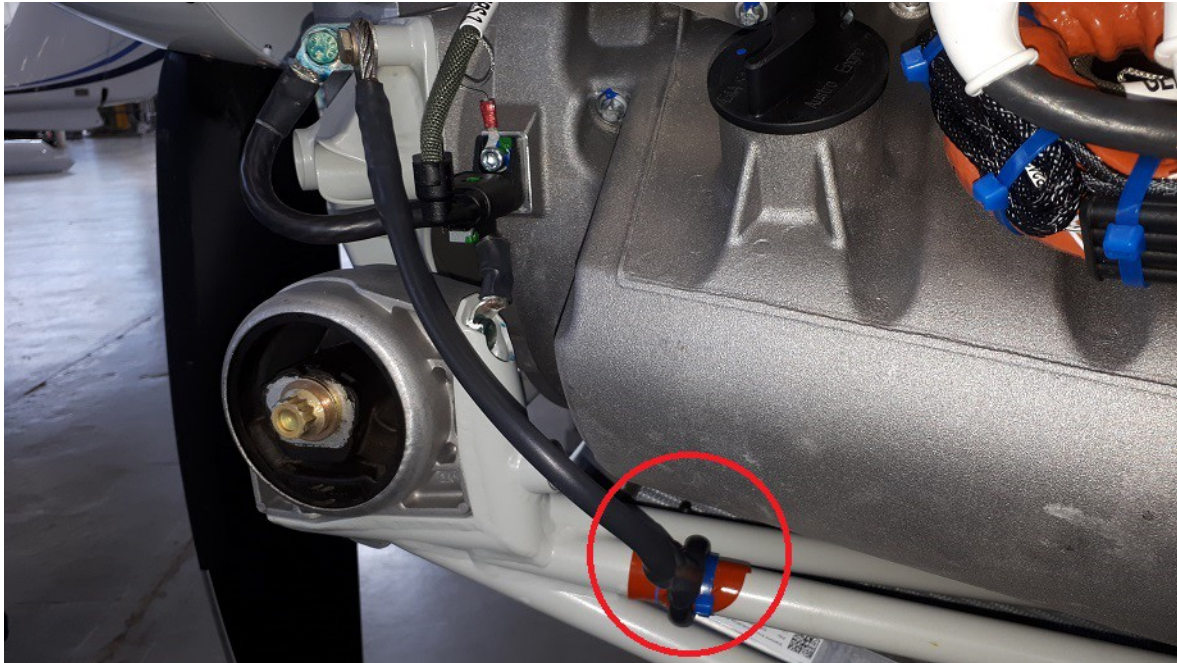

Figure 2. Safety rope at the front left of the engine. Note the silicone tape and zip tie used to secure the safety rope to the engine mount.
3. Inspect the safety rope and surrounding area at the front left of the engine (see Figure 2) for signs of chaffing. Pay special attention to the engine mount and the oil pan.
4. If the safety rope is not secured with silicone tape and a zip tie as shown in Figure 2, use silicone tape and a zip tie to secure the safety rope.